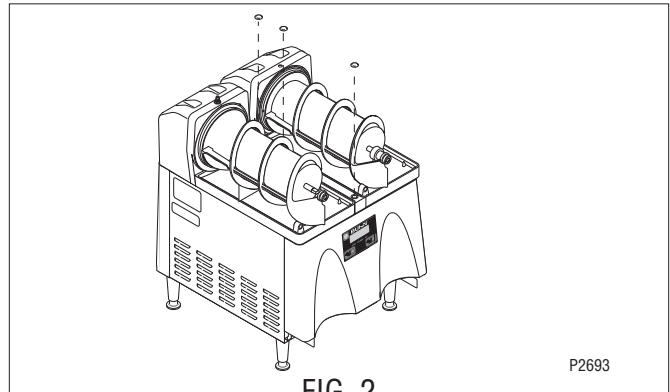

FIG. 2
3. Using a flat head screw driver, carefully pry up and remove the plastic plugs from the Hopper/Drip Tray Trim. See Fig. 2.